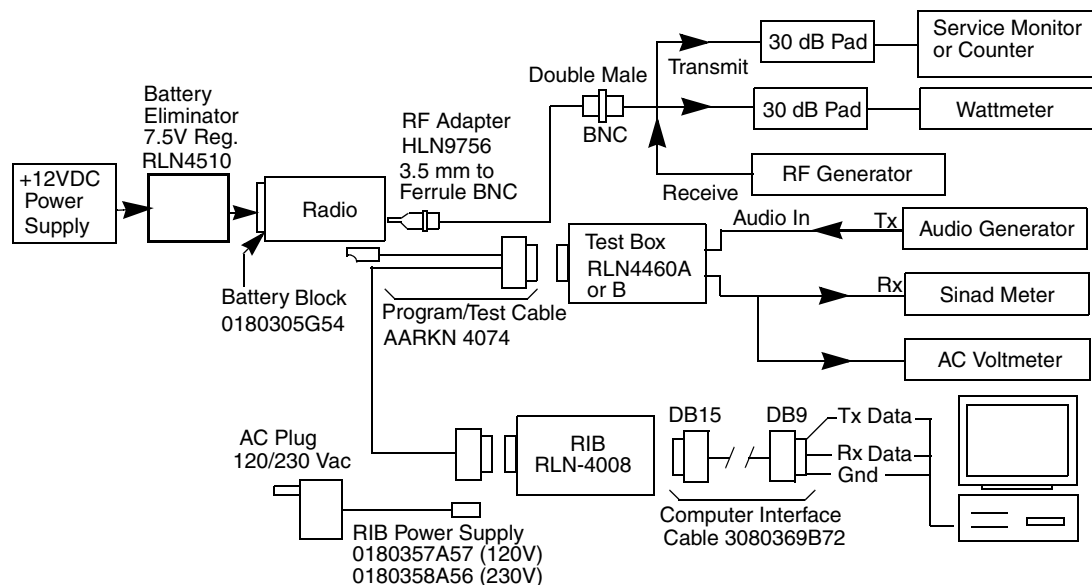

Figure 5-1: Radio Tuning Test Equipment Setup
The receiver and transmitter performance tests are contained in Table 4-5 and Table 4-6 respectively. Refer to Chapter 5, Figure 5-1 on page 5-2, for test equipment setup. Note that all test measurements are taken at 77°F(25°C) and in conventional or trunked models.
A personal computer (PC), Windows® 95/98, and a global tuner program are required to tune the radio. To perform the tuning procedures, the radio must be connected to the PC, radio interface box (RIB), and test equipment shown in Figure 5-1.
The supply voltage is connected to the radio using a Motorola battery eliminator, P/N AA0180305G54. The initial test equipment (Figure 5-1) control settings are listed in Table 5-2.